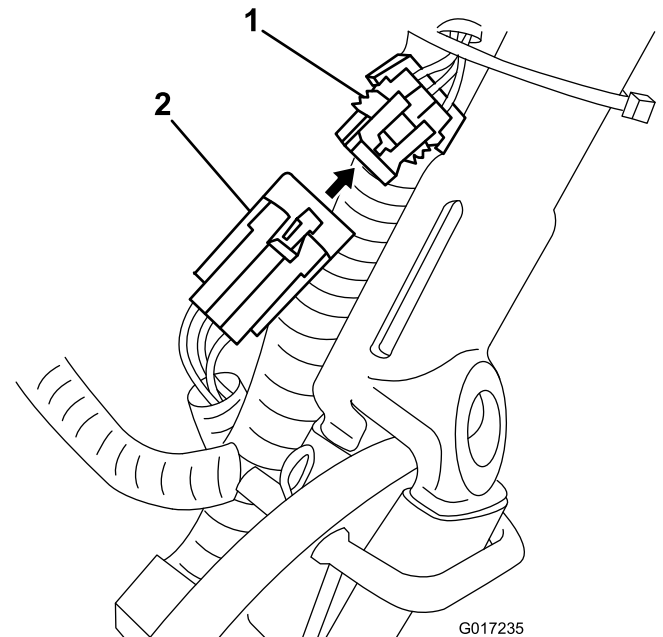

Figure 12
3. Disconnect the small connector on the pack to machine wiring harness from the main wiring harness (Figure 12).
14. Route the pack to machine wire harness under and behind the main harness on the left side of the machine and connect the small, 6 pin connector on the harness to the matching connector on the main wiring harness as shown in Figure 12.